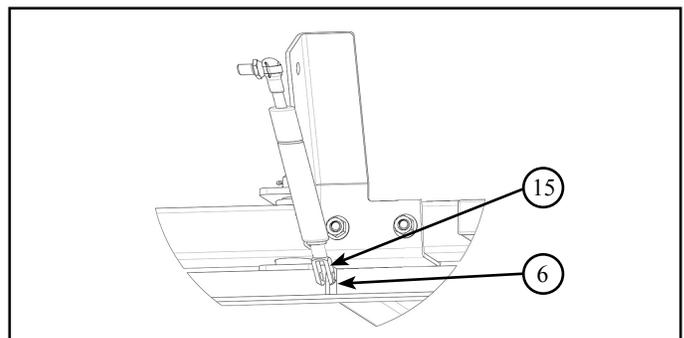

Figure 3.15 - Gas Spring / Bed Frame
1. Align fork end of the gas spring (15) with bed frame (6) mount hole, secure with quick connect clip/pin. Refer to Figure 3.15